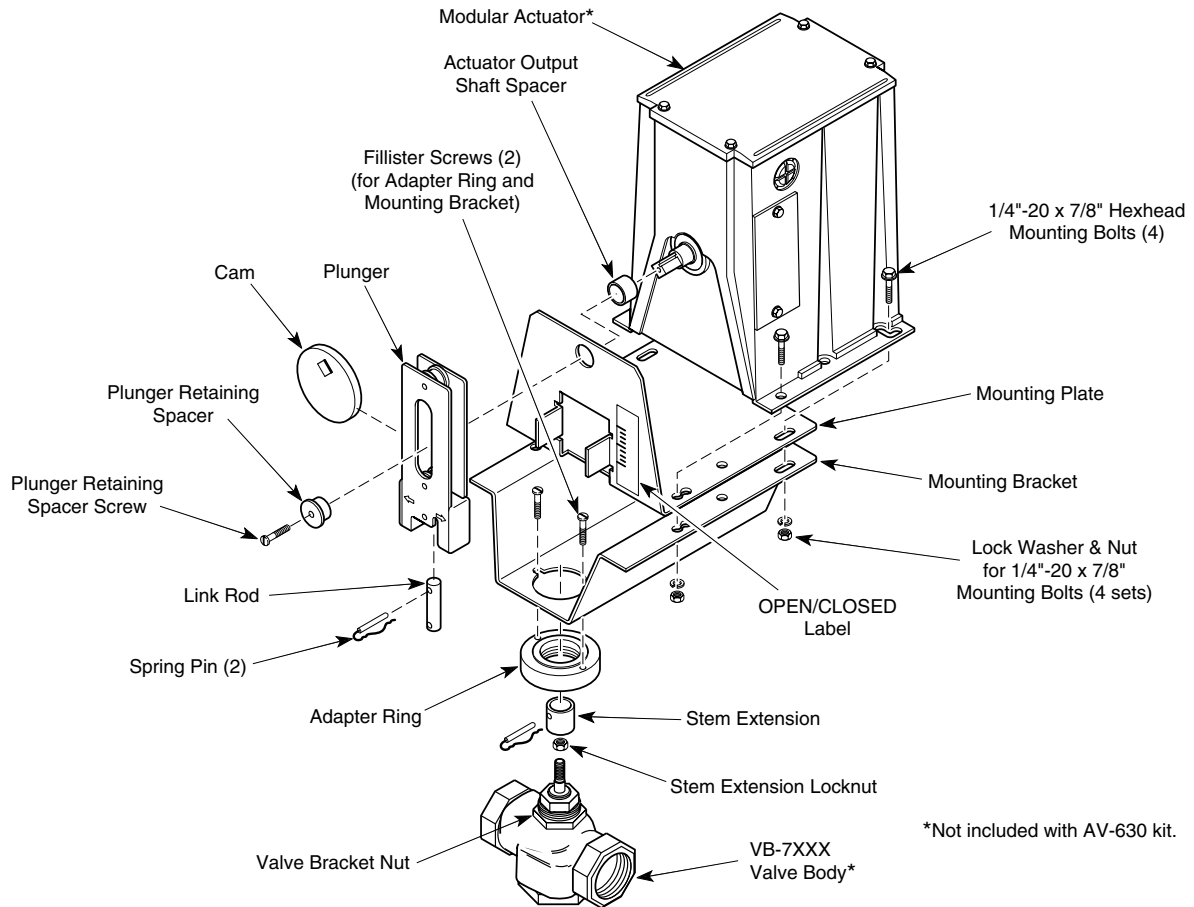
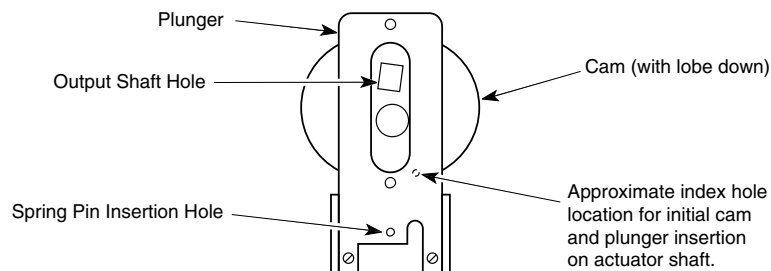

Figure-1 Assembly of AV-630 or AV-630-010 Valve Linkage with VB-7XXX Valve Body.
Figure-2 Initial Cam Installation Position for Valves Assembled to the "Load, Normally Closed-CCW Spring Return" or "Load" End of MM-400/500 Series Actuators.
See Table-2, Figure-1, and Figure-2.
10. With the word "POSITION" marked on the bottom of the plunger facing the installer, insert the cam into the plunger *with the cam part number facing the installer*. The cam square shaft hole must be located on the top of the plunger slot and the index hole located as shown in Figure-2.